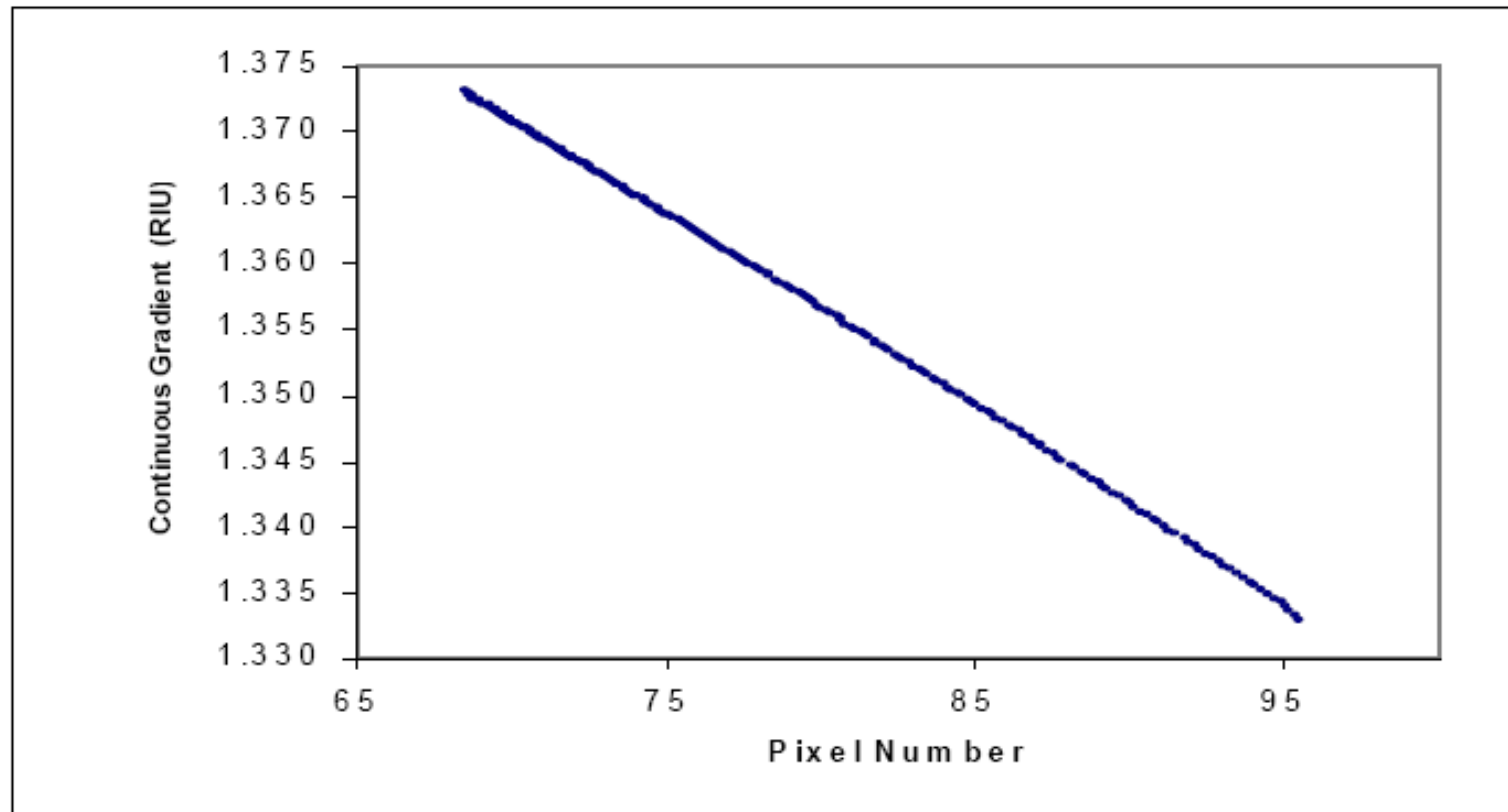

Figure 2: Plot of the pixel position of the SPR minimum versus refractive index.
**Figure 2.** Correlation between the antibody OD values of the iridovirus in the rock bream sera determined by ELISA and signal intensity determined by SPRI (Pearson correlation coefficient,  $n = 40$ ,  $r = 0.939$ ,  $P < 0.01$ ).